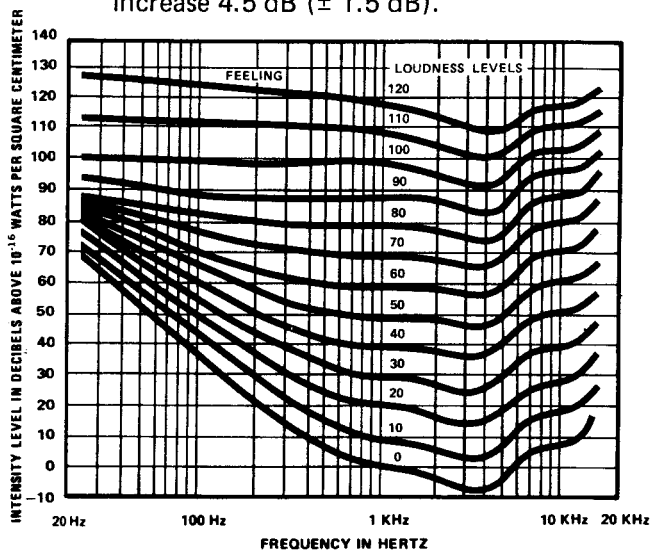

Figure 2-6 Fletcher - Munson Loudness Curves
- (1) Connect oscillator to AUX INPUT Jack. Depress AUX Switch. Rotate VOLUME Control to maximum. Monitor signal at PREAMP OUTPUT Jack with AC VTVM.
- (2) Set oscillator frequency to 1 kHz. Set oscillator output for a 0 dB output level at VTVM.
- (3) Reduce volume in 5 dB increments while monitoring both outputs of the preamp. Right and left channel output levels should be within ± 3 dB of each other down to -40 dB. Output levels should be within ± 4 dB of each other from -40 dB to 50 dB.
P. LOUDNESS CONTOUR (Figure 2-6)
- (1) Connect oscillator to AUX INPUT Jack. Depress AUX Switch. Monitor output at PREAMP OUTPUT Jack with AC VTVM.
- (2) Set oscillator frequency to 100 Hz, 10 dB at PREAMP OUTPUT Jack.
- (3) Reduce oscillator output to -30 dB at the VTVM.
- (4) Depress LOUDNESS Switch. Signal level should increase 6 dB (± 1 dB).
- (5) Repeat test with oscillator frequency set to 10 kHz. Output signal level should increase 4.5 dB (± 1.5 dB).